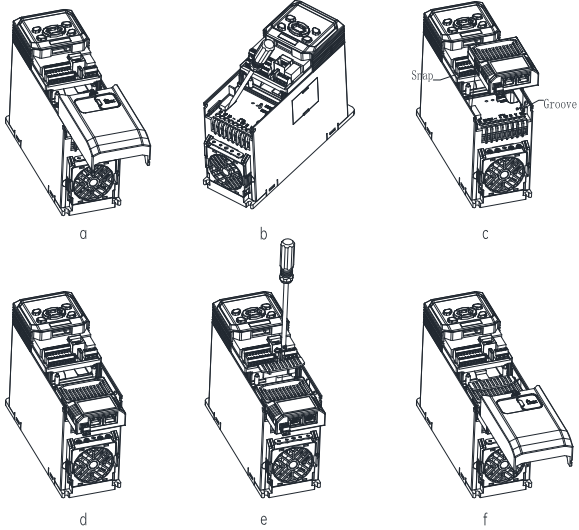

Fig. 6 Modbus TCP option installation steps
- (1) When the drive is powered off, press the granulated area on the middle-upper part of the lower cover, slide it down with a certain amount of force to remove the lower cover, as shown in Fig. 6-a.
- (2) Use a straight screwdriver to pry open the dust-proof cap, as shown in Fig. 6-b.
- (3) Install the Modbus TCP option: hold the expansion box (a bus card inside) upwards (indicators up), align the expansion box with the electrical bus interface in the installation position 2, and press down horizontally to buckle the spring snap of the expansion box into the groove at the lower part of the drive, as shown in Fig. 6-c and Fig. 6-d, Then, use the included retaining plate to secure the option and tighten it with screws (for enclosure B only), as shown in Fig. 6-e.
(4) The bus option is successfully installed, as shown in Fig. 6-f.